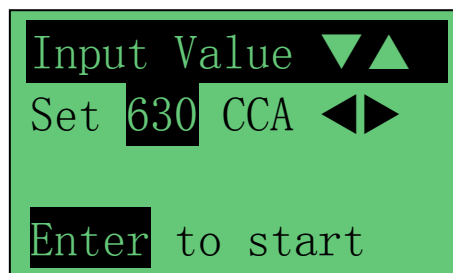

Figure 21
10. To enter the value 630, press  key will increase the original value of 500 (Fig.20) by step of 100 units to 600. Likewise use  key to increase the last two digits (00) to 30 by step of 5 units for each pressing. (Fig. 21)